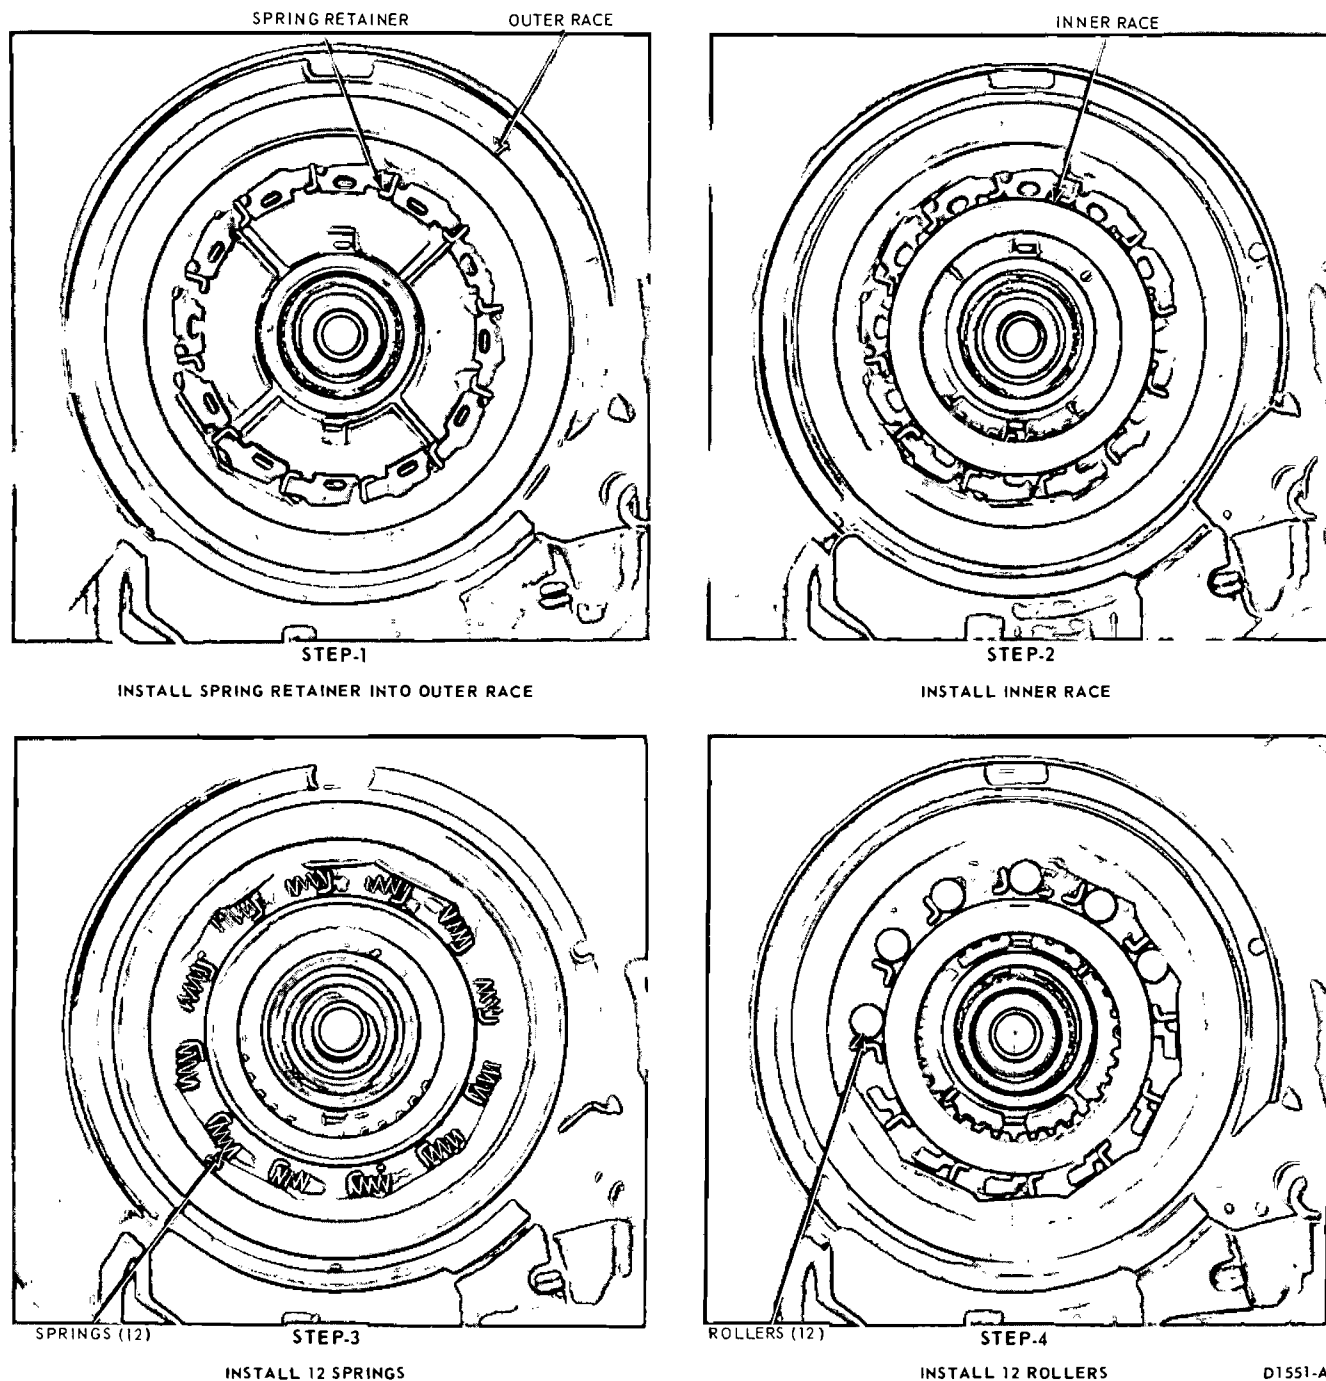

FIG. 107.—One- Way Clutch Installation
12. Install the one-way clutch spring retainer into the outer race (Fig. 107).
14. Install the individual springs between the inner and outer race as shown in Fig. 107.